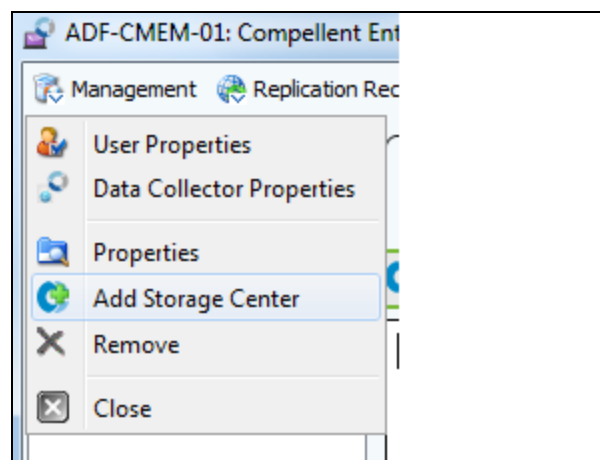

Figure 2.4: Navigating through the Management menu
9. Next, add the target Dell Compellent Storage Center that is to be monitored by clicking the **Add Storage Center** option that appears upon clicking the **Management** menu (see Figure 2.4):